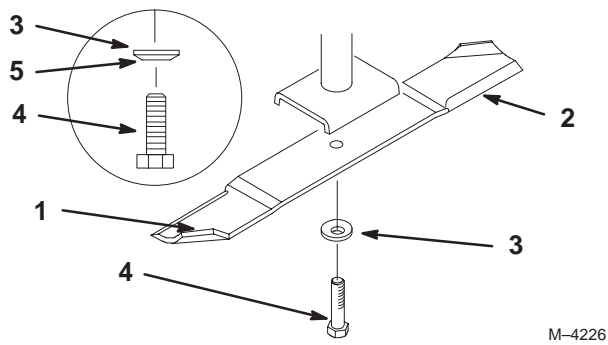

Figure 35
1. Hold the blade end using a rag or thickly-padded glove. Remove the blade bolt, spring disk and blade from the spindle shaft (Fig. 35).
2. Check the balance of the blade by putting it on a blade balancer (Fig. 34). If the blade stays in a horizontal position, the blade is balanced and can be used. If the blade is not balanced, file some metal off the end of the sail area only (Fig. 35). Repeat this procedure until the blade is balanced.
1. Install the blade onto the spindle shaft (Fig. 35).
2. Install the spring disk and blade bolt (Fig. 35). **Torque the blade bolt to 85–110 ft-lb (115–150 N•m).**